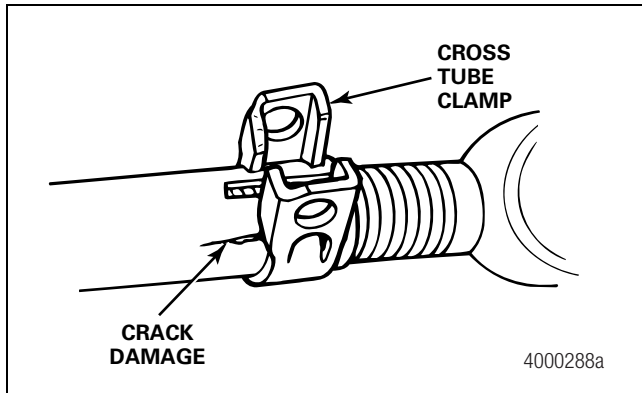

Figure 6.24
- Inspect the cross tube and clamps for damage. Figure 6.24.